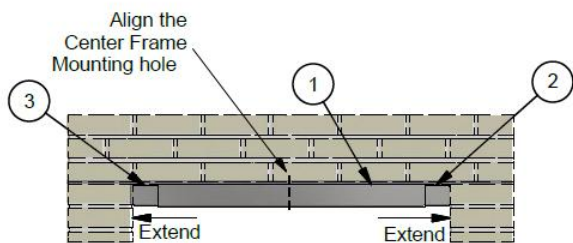

Figure 4a
1. Place the Unit back in the Fireplace Opening and extend the Side Frames ② and ③ to the sides of the Fireplace Opening. (Figure 4a)
2. Align the Mounting Holes with the drilled holes of the Fireplace. (Figure 4a)